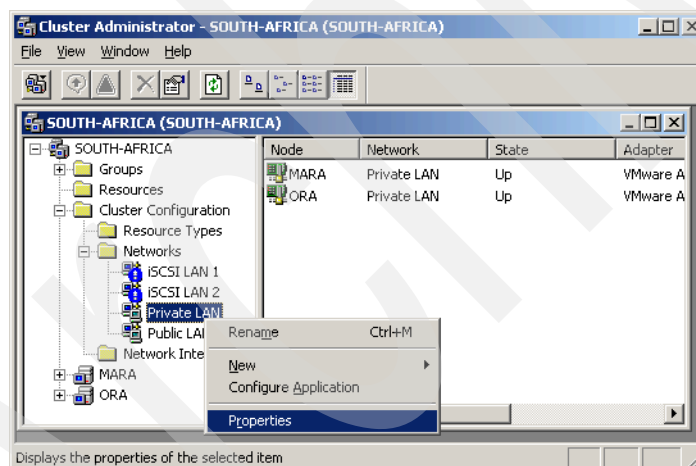

Figure 23-64 Private LAN
5. Right-click **Private LAN** and select **Properties**, as shown in Figure 23-64.